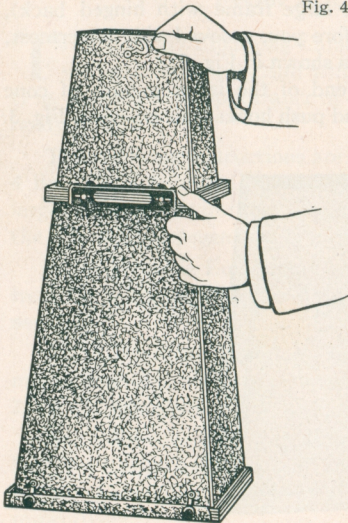

Fig. 5.
4. Before pushing over the locks, fit the wide end of the smaller section of cone into groove, in lens board. Then push the two metal locks over the pins, thus giving firmness and rigidity to the entire cone. Fig. 5. (There are two pins on each side of the smaller section which must fit into the locks in the same manner as the pins on the larger section.)